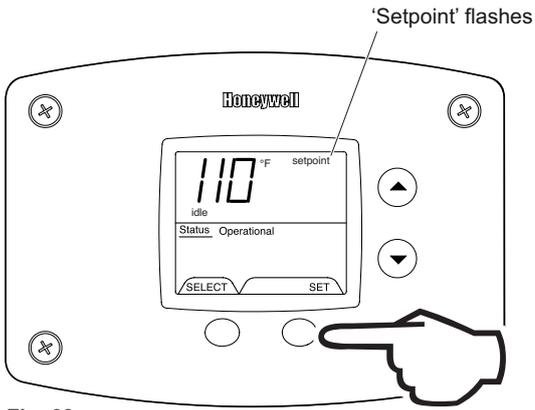

Fig. 63
- To lower the temperature setpoint, press the 'Temperature Down' button until the desired temperature is shown on the water heater display (Fig. 63).